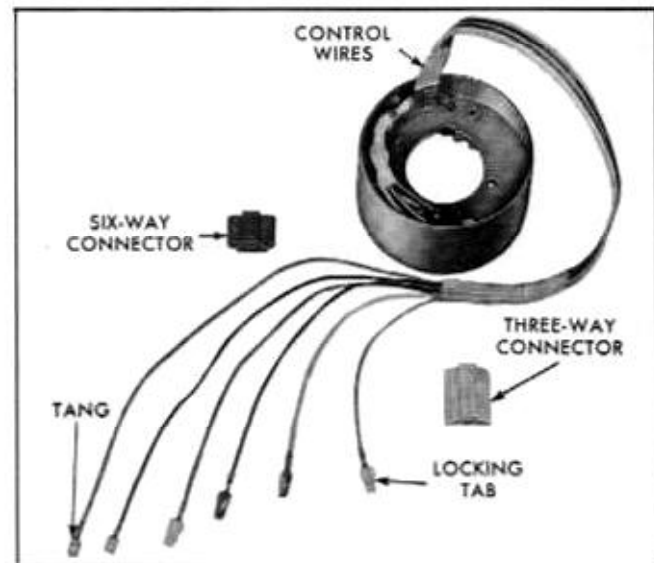

Fig. 12-65 Direction Signal Control Wire Connections
main wire harness by means of a six-way connector (Fig. 12-65).
2. Disconnect steering column wires from main wires at six-way connector. Using a small screwdriver or similar tool to depress locking tab on side of terminals (Fig. 12-65), remove four direction signal control wires from connector.
5. Note carefully the colors of the wires in main wire harness connector. Replace four direction signal control wires in six-way connector so colors match with those in main wire harness. **NOTE:** The terminals of each of these three wires have a locking tab on the side and a tang at the rear (Fig. 12-65). The terminals must be installed so that tang fits into slot in rear of connector. If necessary, bend locking tab so terminals will lock in connector.